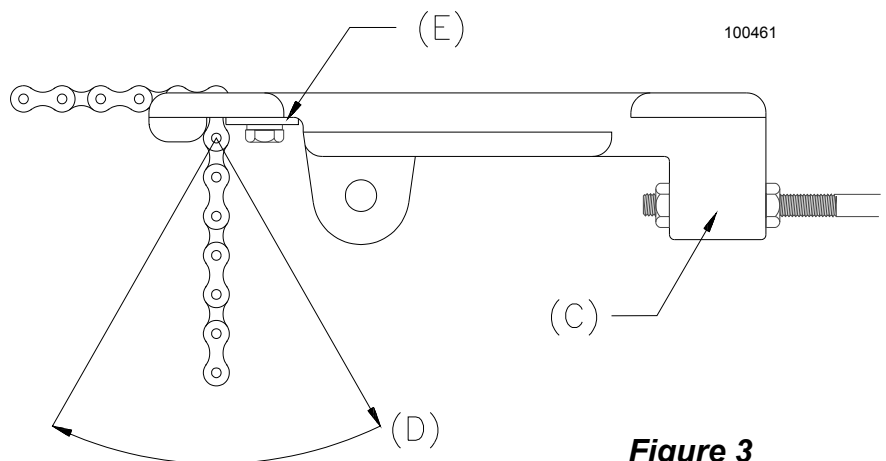

Figure 3
- 3) Referring to Figure 1 , 2 and 3 (below) , slide the trolley onto the track with the chain take up bolt lug (C) toward the power head. Thread one 3/8-16 keps nut (attached star washer) onto the Chain take up bolt with the keps part (attached star washer) away from the chain attachment end. Insert the chain take up bolt threaded end through the lug hole on the trolley (C) just far enough to start a second 3/8-16 keps nut. Attach one end of the chain to the opposite end of the threaded stud using a 3-piece chain link (provided). See Figure 3.